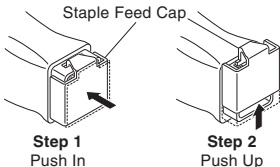

Figure 1 - Removing Staple Feeder Assy.
1. Push staple feeder assembly forward and slide staple feed cap upward (see Figure 1).